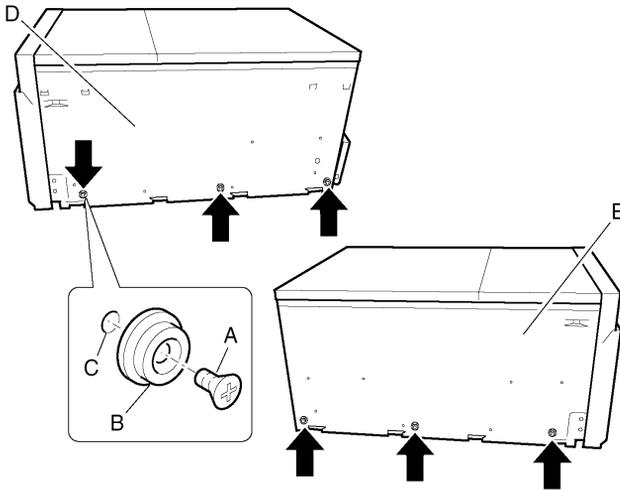

Figure 65 - Installing the bushings
- 1 Insert a screw (Figure 65, A) in one of the bushings (Figure 65, B), and then insert it in a mounting hole (Figure 65, C) on the right frame wall of the chassis (Figure 65, D). Tighten the screw.
- 2 Repeat step 1 for the remaining mounting holes on the right frame wall (Figure 65, D), using the pattern indicated in Figure 65.
- 3 Attach the three bushings on the left frame wall of the chassis (Figure 65, E) in the pattern shown in Figure 65 using the same procedure described in step 1.